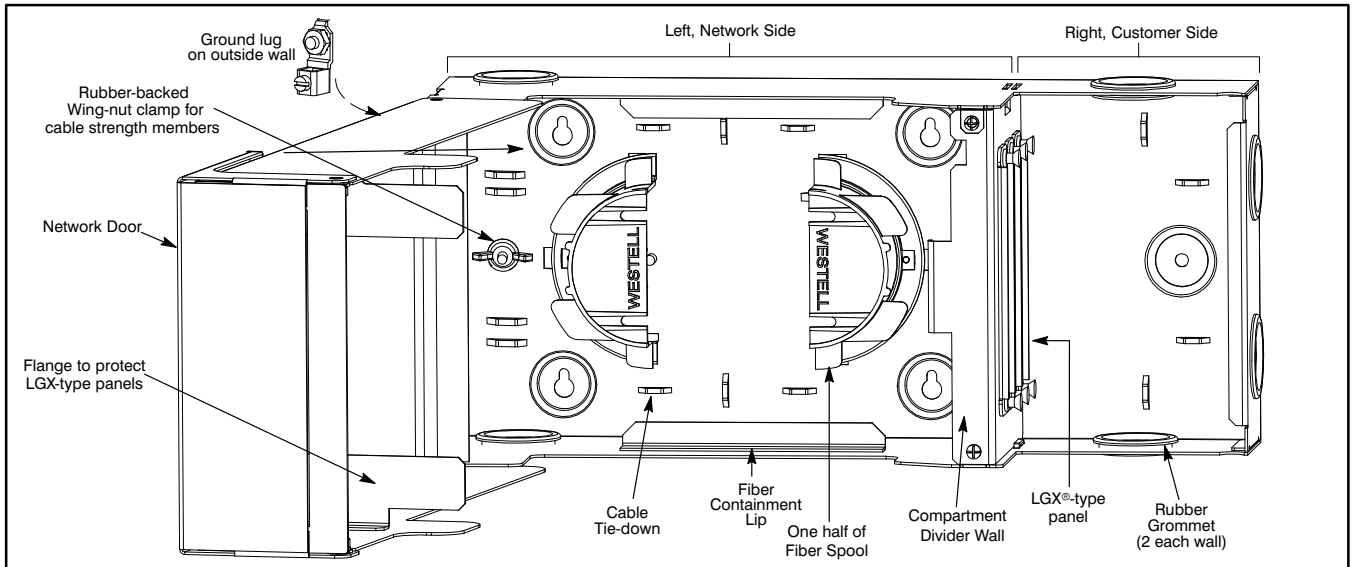
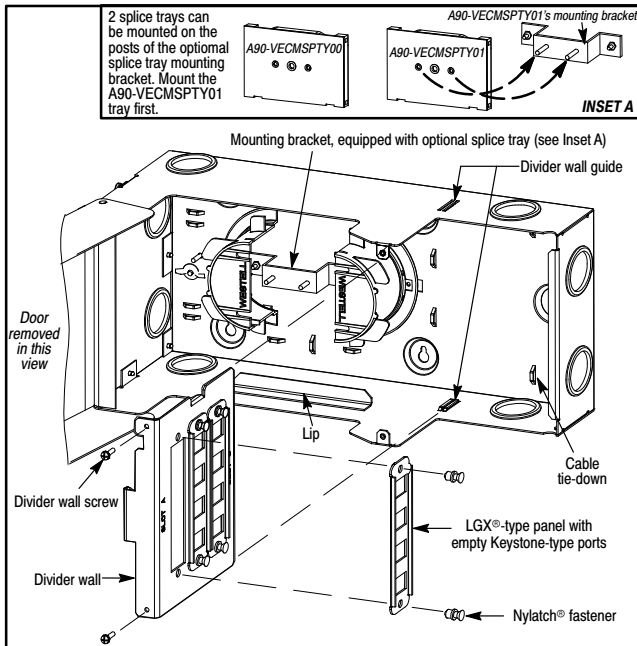

Figure 4. VEUE-30 with Network Door Open
Figure 5. Detaching the Divider Wall and Panels
The enclosure is shipped from the factory with a ground lug (in a bag of parts) capable of accepting #6 ground wire for wall-mount applications. The installer should locate the ground lug and hex-nut from the bag of parts shipped with the panel and install the lug (using the provided screw) on the post located on the left outside wall of the enclosure (see Figure 4), securing the ground lug via the threaded hole in the enclosure. The installer then makes the ground connection to the ground lug using a #6 ground wire and then grounds the enclosure to an earth ground or according to local installation procedures for grounding and bonding equipment.
After mounting the enclosure, installer connections may be performed. Figure 4 and Figure 5 show the interior removable compartment divider wall where the couplers will be installed.
1. Open the large Network-side door (Figure 4) with the key.
2. For easy hand access, optionally remove the interior compartment divider wall (see Figure 5) by loosening the two Phillips-head screws at the front of the divider and sliding or pulling out the divider wall.
9. Perform any required splicing, per company practice. *Up to 2 optional fiber splice trays (for up to 24 splices) can be mounted inside the VEUE-30 (see Table 2 for ordering information). To mount the trays: 1) Remove the 2-piece fiber spool, 2) install the bracket equipped with the A90-VECMSPTY01 splice tray to the posts [Figure 5] on the enclosure’s rear wall, 3) re-install the 2-piece spool, and 4) mount the trays to the bracket after splicing is performed by aligning the holes in the tray(s) with the mounting posts provided for them on the bracket.*